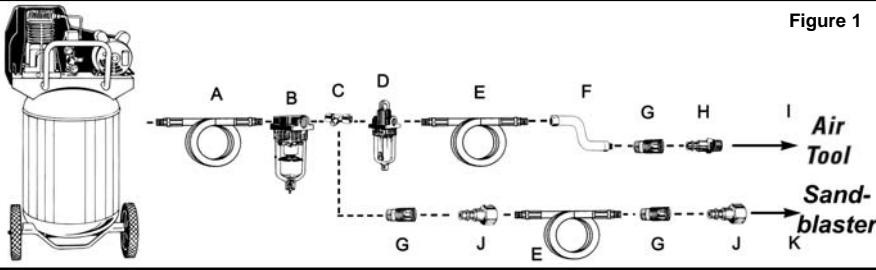

Figure 1
IMPORTANT: Installation of appropriate water/oil removal equipment is recommended. Failure to do so will cake the abrasive material and clog the sandblasting gun, causing the gun to not operate (follow the recommended installation for the sandblaster in Figure 1).
4. Connect the tool to the air hose quick coupler. **NOTE: It is recommended that a whip hose with a swivel (P012-0079SP - not included) be used to prevent twisting, kinking and excessive wear to the air hose (ref. item "F" in figure 1 for recommended connections).**